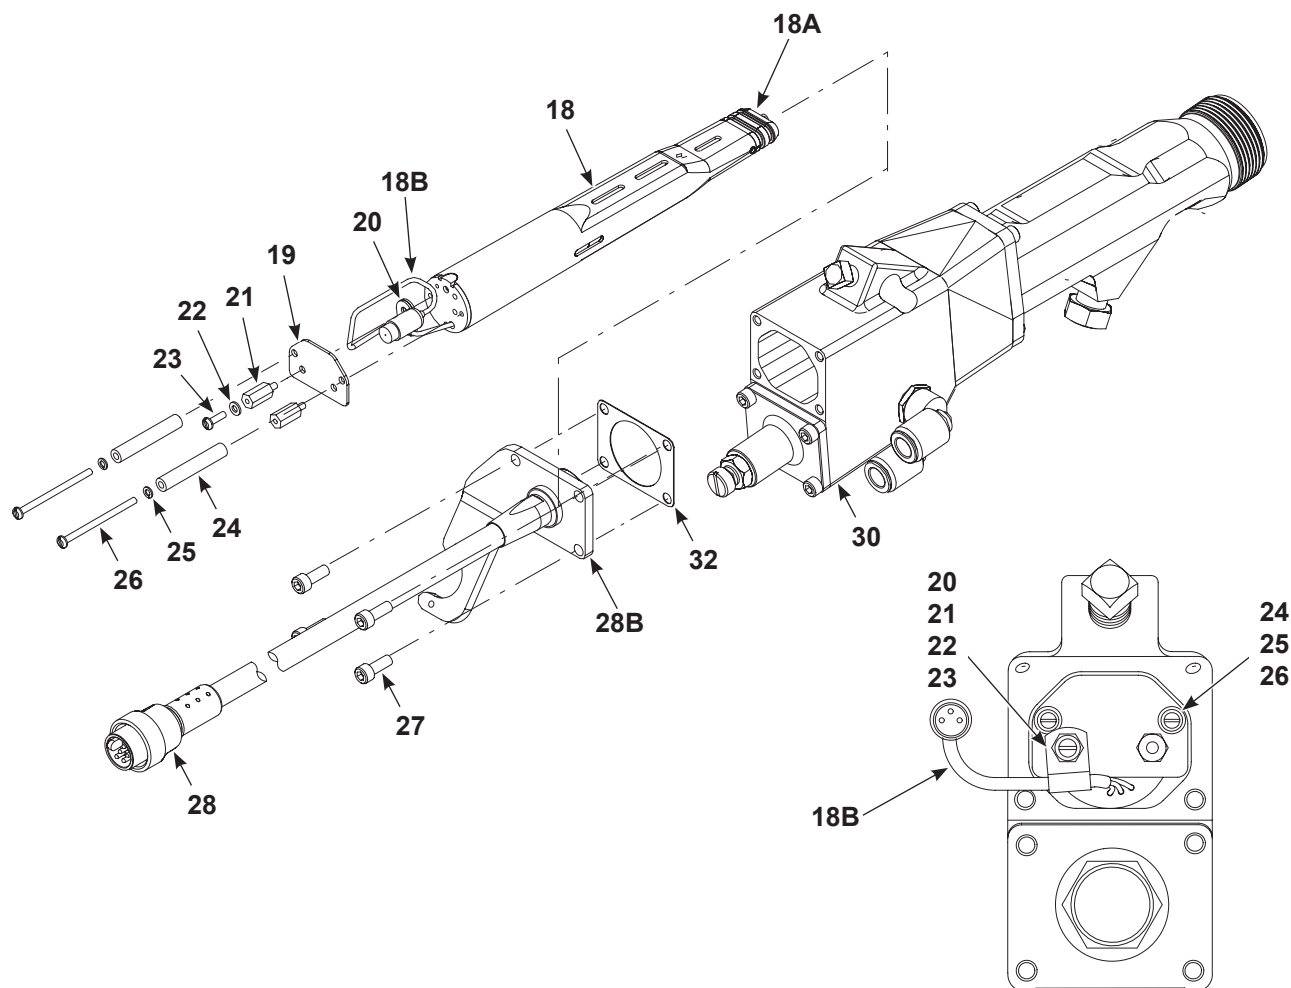

Figure 7-9 Multiplier Replacement
2. See Figure 7-9. Remove the four socket screws (27) securing the cordset bracket (28A) to the gun body (30).
4. Remove the two upper screws (26), lock washers (25), and spacers (24), from the multiplier.
1. See Figure 7-9. Make sure that the contact spring (18A) is in place in the front end of the multiplier (18). Apply a liberal coating of dielectric grease to the contact spring and front 1/3 of the multiplier.